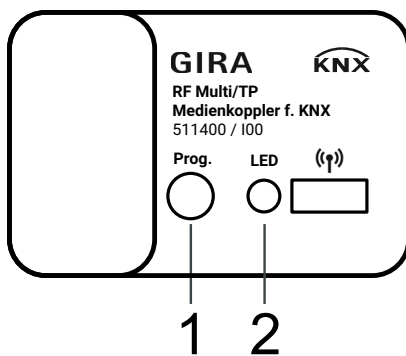

Figure 14: Programming
1. Briefly press the programming button (see figure 14, Pos. 1).
The status LED (see figure 14, Pos. 2) lights up red..